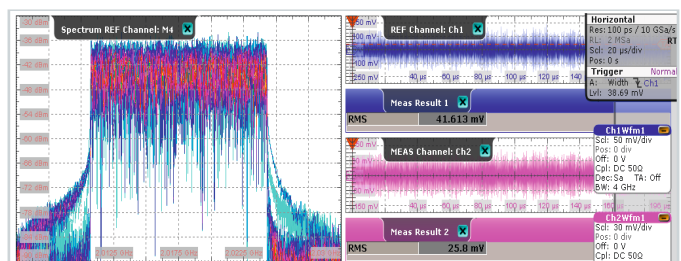
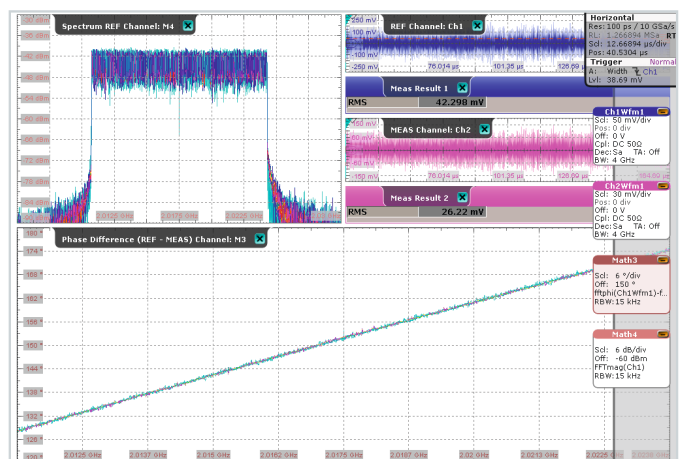

Fig. 4: Spectrum and RMS measurement of the LTE TDD signal.
Fig. 6: Phase difference with optimized acquisition parameters.
To check the spectral conformity of the signal, the spectrum of the REF channel is displayed below, and as expected it is a 15 MHz wide signal at 2.0175 GHz (LTE band). Weighting in terms of magnitude can be measured using the automated VRMS measurement function for the REF and MEAS channels. The ratio of RMS voltages between the REF and MEAS channels gives the magnitude of the weighting factor. Fig. 4 shows the RMS voltage measurement on the right, below are the traces of the REF (blue) and the MEAS (pink) channels. The measurement provides an accurate value since it is focused only on the signal. The trigger setup ensures that noise during a gap is excluded from the measurement.
- First, the occasional spikes on the waveform. These spikes are caused by non-symbol synchronous sampling. They can be reduced by locking the scope to the transmitter clock, setting the FFT resolution bandwidth (RBW) equal to the LTE subcarrier bandwidth of 15 kHz and adjusting the trigger position to the optimal point of 40  $\mu$ s for this example. The improved phase difference is displayed in Fig. 6, which appears much smoother. The spectrum of the REF channel has also improved compared to Fig. 4